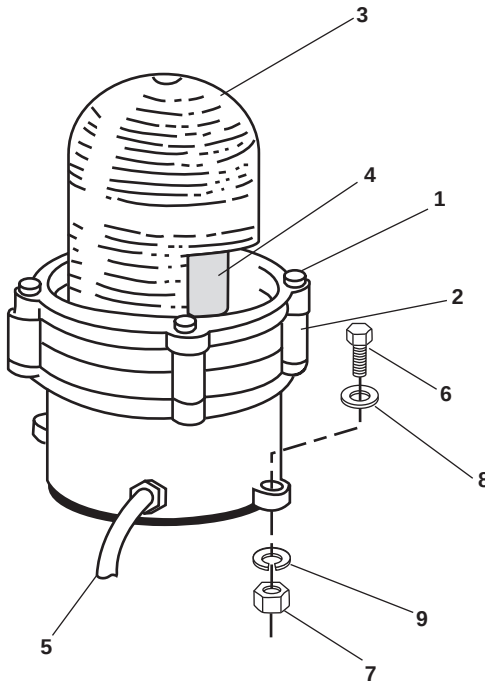

Figure 1. Yardarm Blinker Light
1. Remove the bolts (figure 1, item 1), retaining ring (figure 1, item 2), and lens (figure 1, item 3) from the existing light.
2. Remove the bulb (figure 1, item 4) from the socket.
4. Label and remove the wiring (figure 1, item 5) from the existing light.
5. Remove the two bolts (figure 1, item 6), two nuts (figure 1, item 7), two flat washers (figure 1, item 8), and two lockwashers (figure 1, item 9) that secure the light to its foundation. Discard the lockwashers.
1. Install the light on its foundation and secure it with the two bolts (figure 1, item 6), two flat washers (figure 1, item 8), two new lockwashers (figure 1, item 9), and two nuts (figure 1, item 7).
2. Install the wiring (figure 1, item 5) inside the light using the labels from step 4 of Removal as guide. Remove the labels.
3. Install the lamp (figure 1, item 4).
4. Install the lens (figure 1, item 3) and retaining ring (figure 1, item 2), securing them with the bolts (figure 1, item 1).